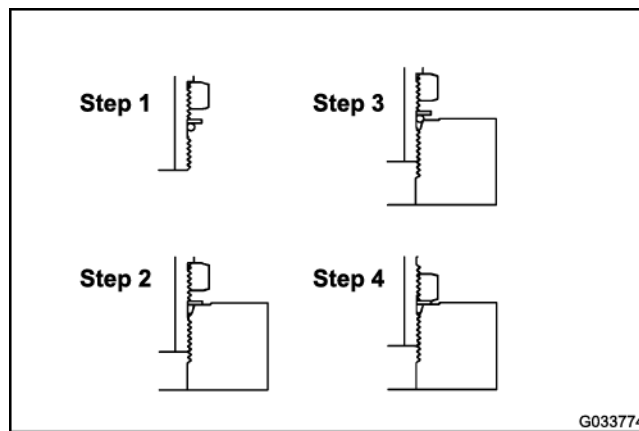

Figure 24
4. Turn back the locknut as far as possible. Ensure that the back-up washer is not loose and it is pushed up as far as possible (Step 1 in Figure 24).
5. Install the adjustable fitting into the port by hand until the washer contacts the face of the port (Step 2 in Figure 24).
6. If the adjustable fitting needs to align with another component, rotate the fitting counterclockwise until it is aligned to the desired position (Step 3 in Figure 24). Do not rotate the adjustable fitting more than 1 turn counterclockwise.
- A. Hold the fitting in the correct alignment with a wrench and, if the port material is steel, tighten the locknut with a second wrench to the listed FFFT (Step 4 in Figure 24).